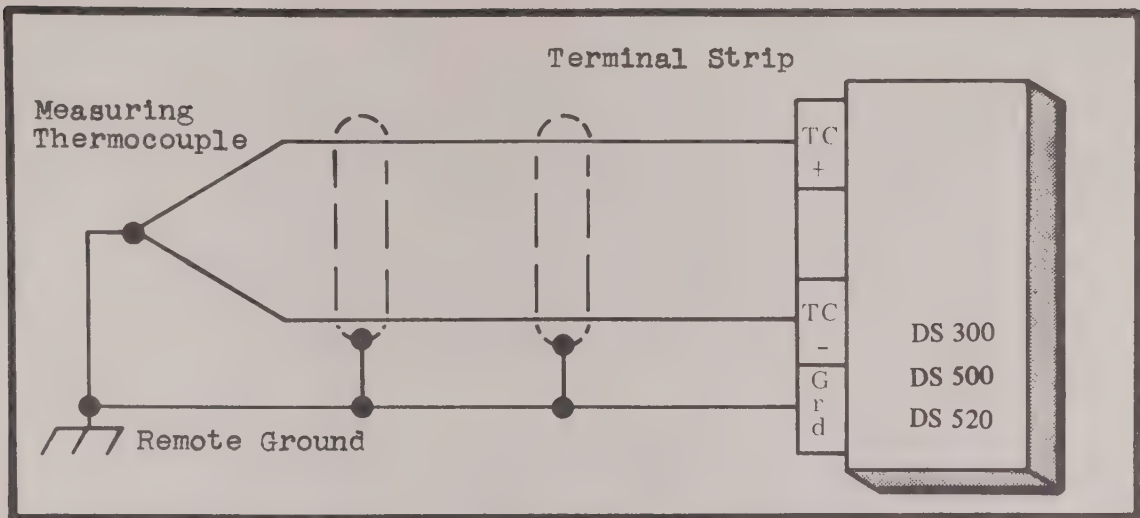

FIG. 2-1 GROUNDED THERMOCOUPLE
- a. If the thermocouple is grounded, the circuit shown in Figure 2-1 should be employed.